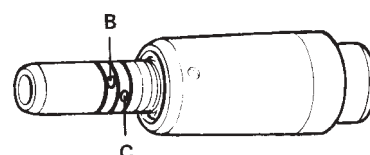

fig. 2
- In Intramatic version, AIR comes out of hole "B" and WATER comes out of hole "C" (fig. 2).